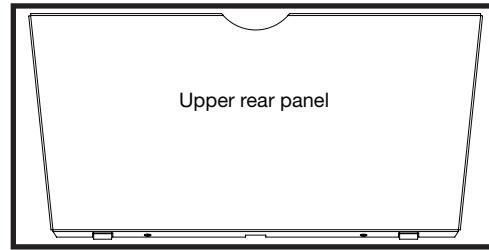

Figure 48: Upper panel.
3. Holding the lower rear panel in place, position the upper rear panel so that it is against the rear wall and on top of the lower rear panel (Figure 53). There are two tabs on the bottom of the upper rear panel (Figure 48). These tabs will fit into the two notches on top of the lower rear panel. Secure the upper rear panel using the included panel clips (Figure 54).